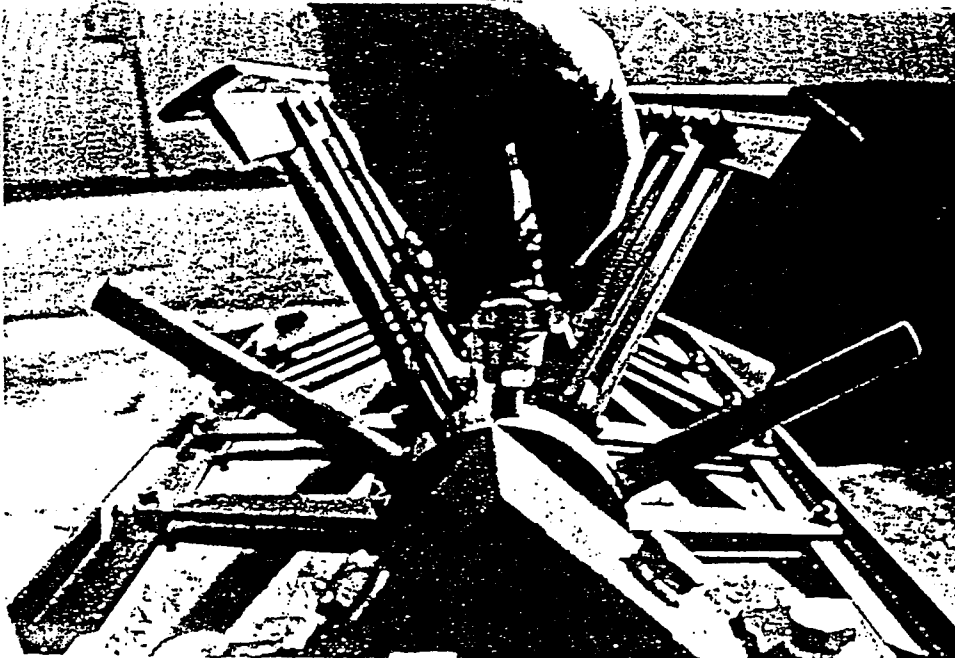

FIGURE 2
- 2.) Loosen the lock knob (See FIGURE 2) and turn the hand wheel counter clockwise to make the arbor smaller.